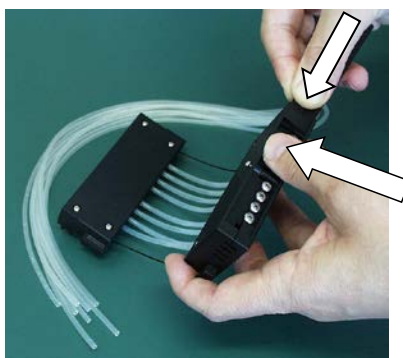

Figure 5-43. Inserting the cover on the calibration screws
2. Remove the four cover retaining screws on the lower part of the dispensing cassette; the tubes with the tube fasteners and the tip manifold with the tips; the three cover retaining screws on the upper part of the dispensing cassette; the two tension limiting wires; the calibration screws (Figure 5-43), and the tubes with the tube fasteners. Save the calibration screws and the PEEK tubing weight for installing the new tubing set.
15. Insert the calibration screw cover easier by lifting or bending the upper cover slightly (Figure 5-43).